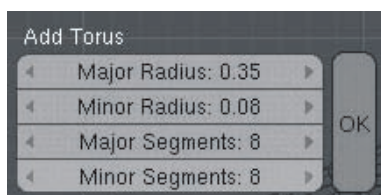
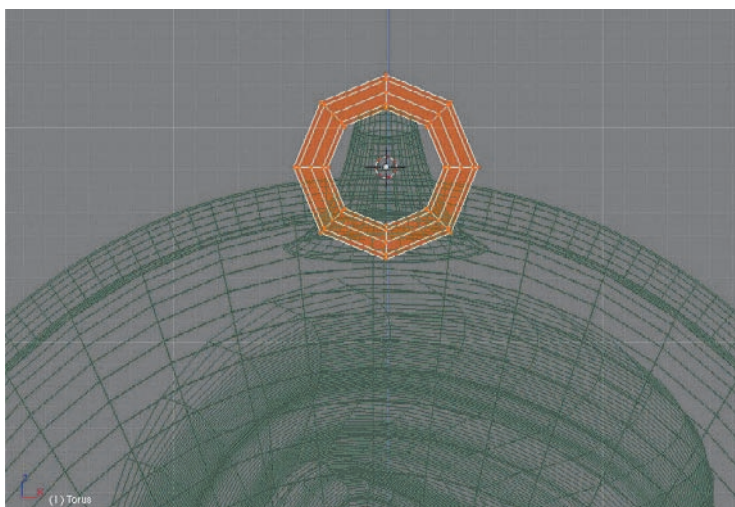
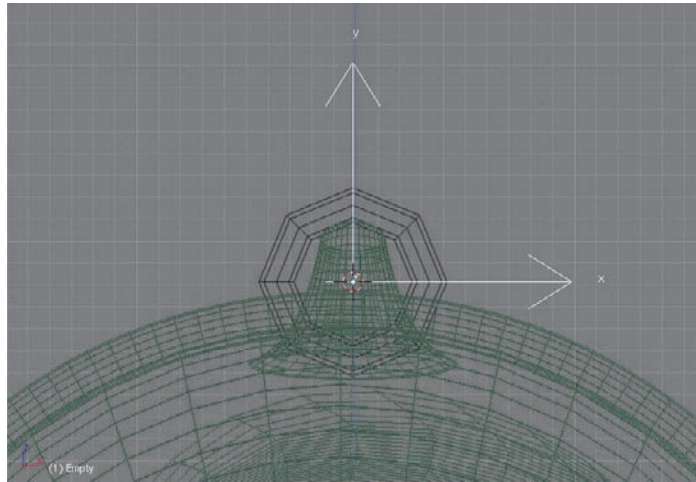

Figure 3.24 Values for the torus
Figure 3.25 Adding a torus
Figure 3.26 Adding an empty
1. Select the pendant and snap the cursor to the object by using Shift+S to access the Snap menu and then choosing Cursor > Selected. Add a Torus object by pressing the spacebar and choosing Add > Mesh > Torus. Use the values shown in Figure 3.24 for the torus. The torus should look as shown in Figure 3.25. Tab into Object mode and add an empty in the same way, as shown in Figure 3.26.